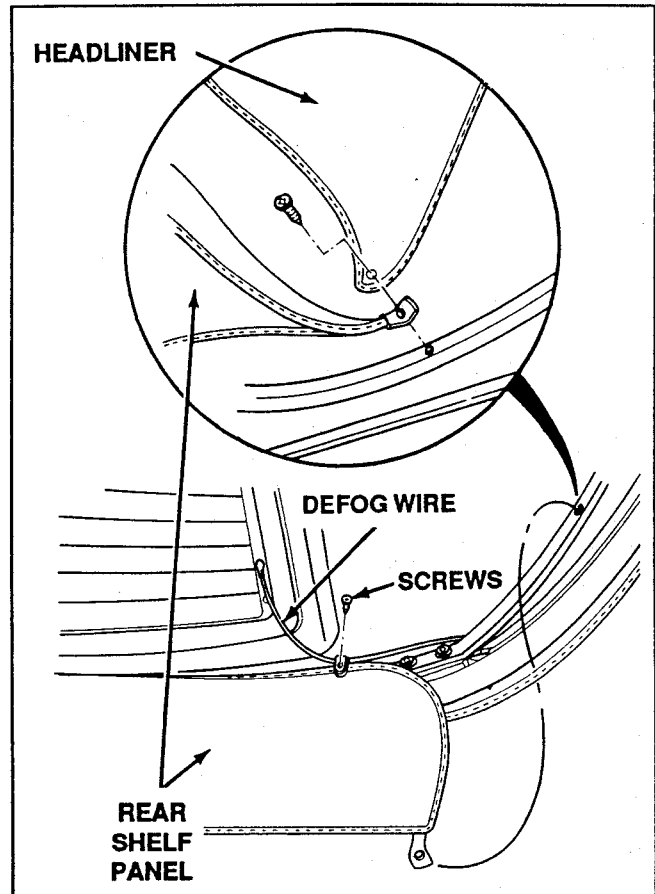

Figure 58. Remove Rear Shelf Panel
1. Raise the top stack. Inside the vehicle, remove the rear shelf panel and screws (Fig. 58).